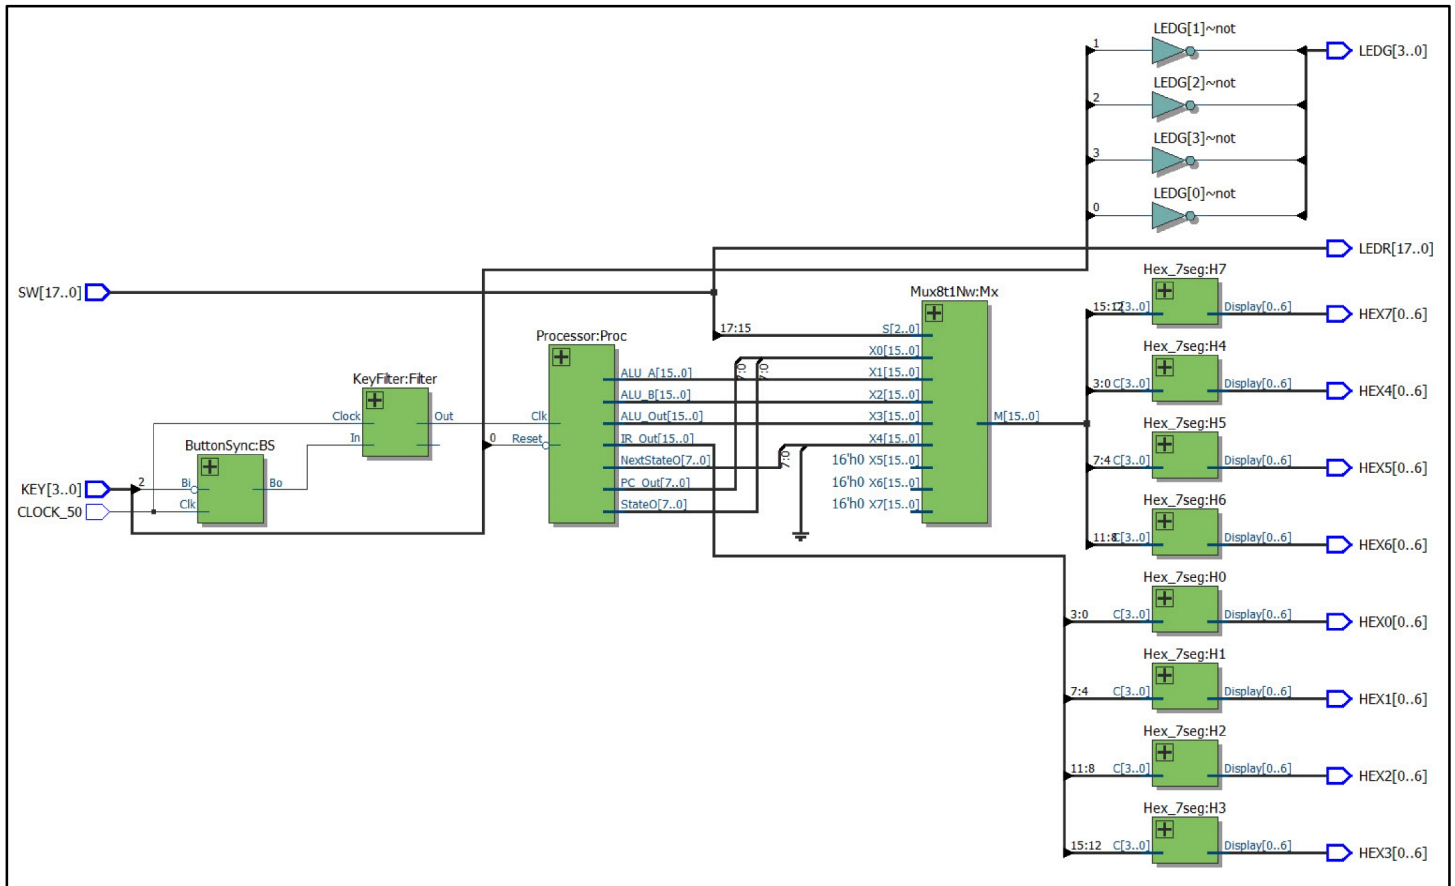

Figure 1. Top-level RTL View
- Your top level module (LabB) should instantiate a processor module, a multiplexer for selecting displays and a key conditioner (described below). Your top level RTL view should look very close to Figure 1.